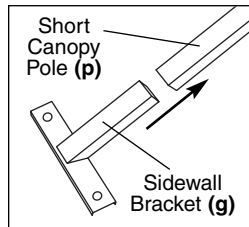
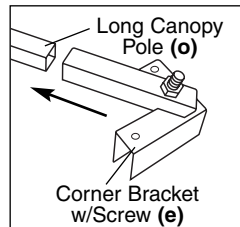

Fig. 6
Fig. 7
- Snap on 4 sidewall brackets (g) on end of short canopy poles (p) (Fig. 6) and corner brackets w/screw (e) on end of 4 long canopy poles (o) (Fig. 7).